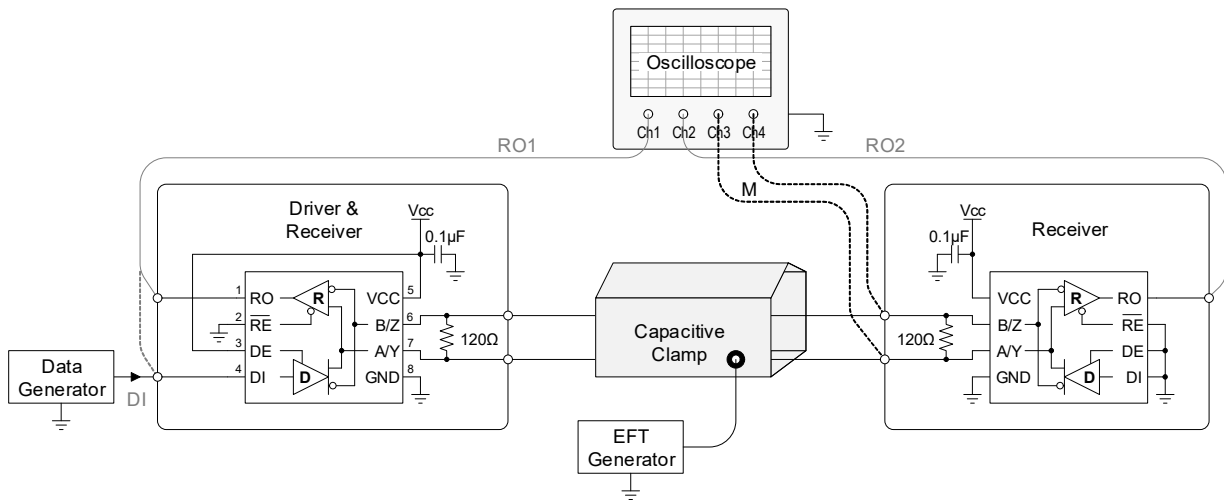

Figure 4. Schematic of Laboratory Test Setup
Figure 4 show the schematic of test setup for testing the EFT immunity of RS-485 transceivers. A data signal in form of a square wave is applied to the data input (DI) of the left node. This node is configured as a driver whose output is looped back to the receiver output (RO1), which is captured with the oscilloscope. The driver transmits data to the receiving node on the right, whose output (RO2) is also captured with the scope. During transmission, the EFT test voltage is raised until one of the transceivers latches up first.